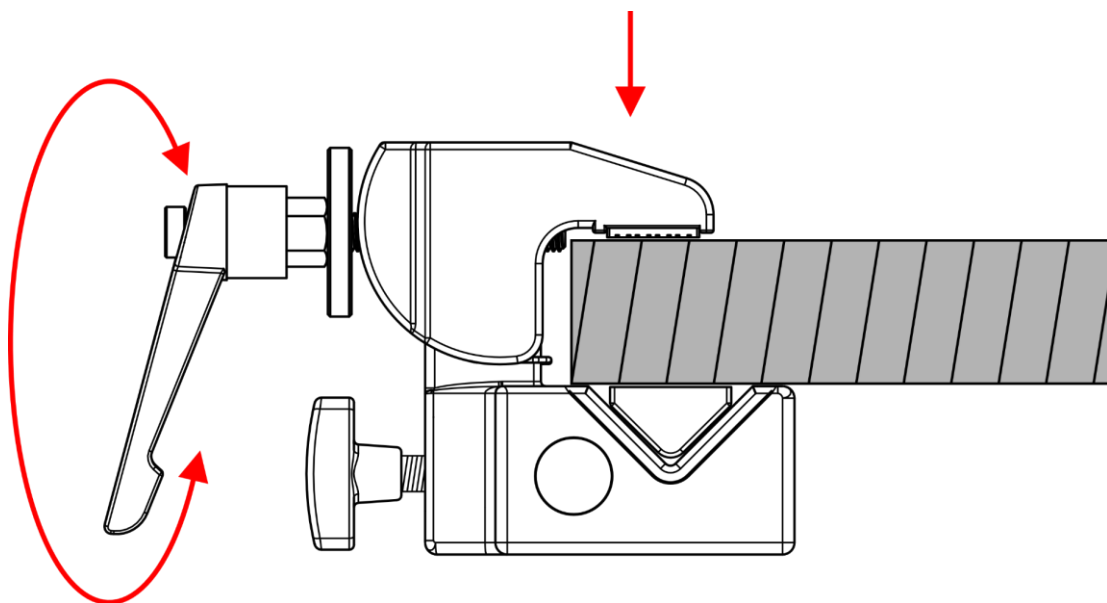

Fig. 07
- 04) Turn the **mounting screw (01)** counterclockwise, to loosen the device.
- 05) Attach a load to the mounting threads: **16 mm (5/8") hexagon socket (07)**, **M5 threads (08/09)** or the **UNC 1/4" 20 thread (10)**.
- 07) Turn the **mounting screw (01)** clockwise, to tighten fit the device firmly to the surface. See Fig. 07.